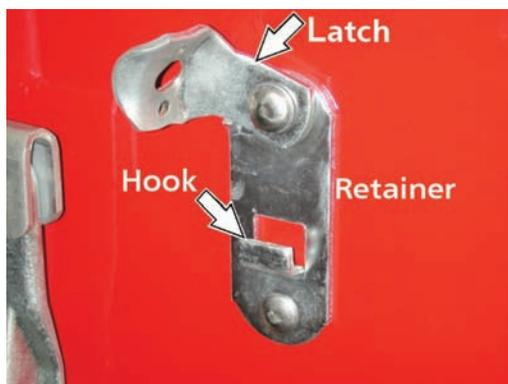
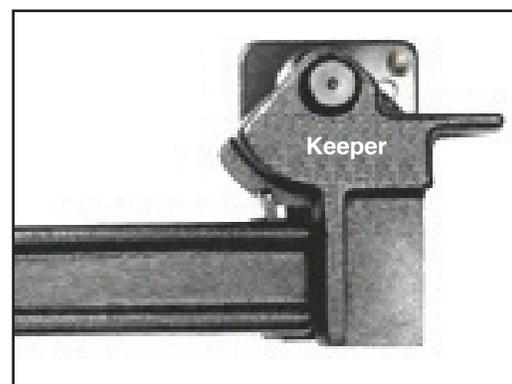

Fig. 3 - Swing Door
Fig. 4 - Swing Door
1. Drill/grind the bolts out of the handle retainer assembly (for swing door) or the handle keeper (for roll-up door). (See Figure 3 for Swing Door and Figure 4 for Roll-Up Door.)